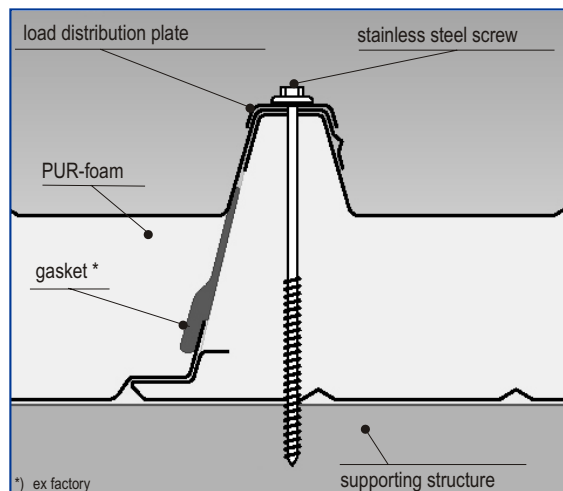

Fig. 2a
For installation of G4-panels (PUR-foam) fixing is possible in the high (HS) or in the low corrugation (ZS) (Fig.2a).